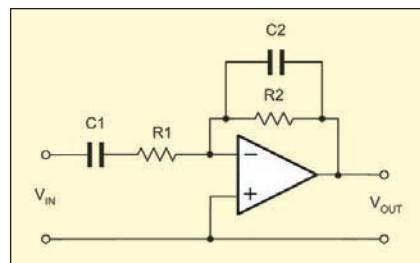
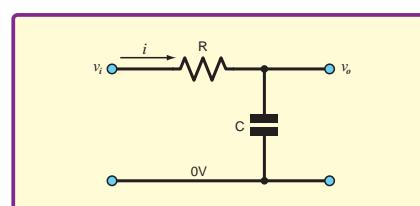

Fig.1. An inverting amplifier with capacitors to limit both the low and the high frequency response (EPE Aug '06, P48)
Fig.2. A basic RC low-pass filter (EPE Oct '09)
(ii) In EPE Oct '09, page 55, Fig.1 (Circuit Surgery) shows a basic RC filter. My question: How does a resistor act as a filter?
These two examples (see below left) show an active (Fig.1.) and passive (Fig.2.) filter. Active filters use amplifiers such as op amps or transistors to provide improved performance over passive filters, but in both cases it is not just a resistor (R) or a capacitor (C) on its own that determines the filter's characteristic, but it's the combination of the two that matters, hence the term 'RC circuit'. Similarly, inductors (L) can also be used to make filter circuits; again it is the combinations that provide the filtering operations: RL , LC and RLC circuits can act as filters.